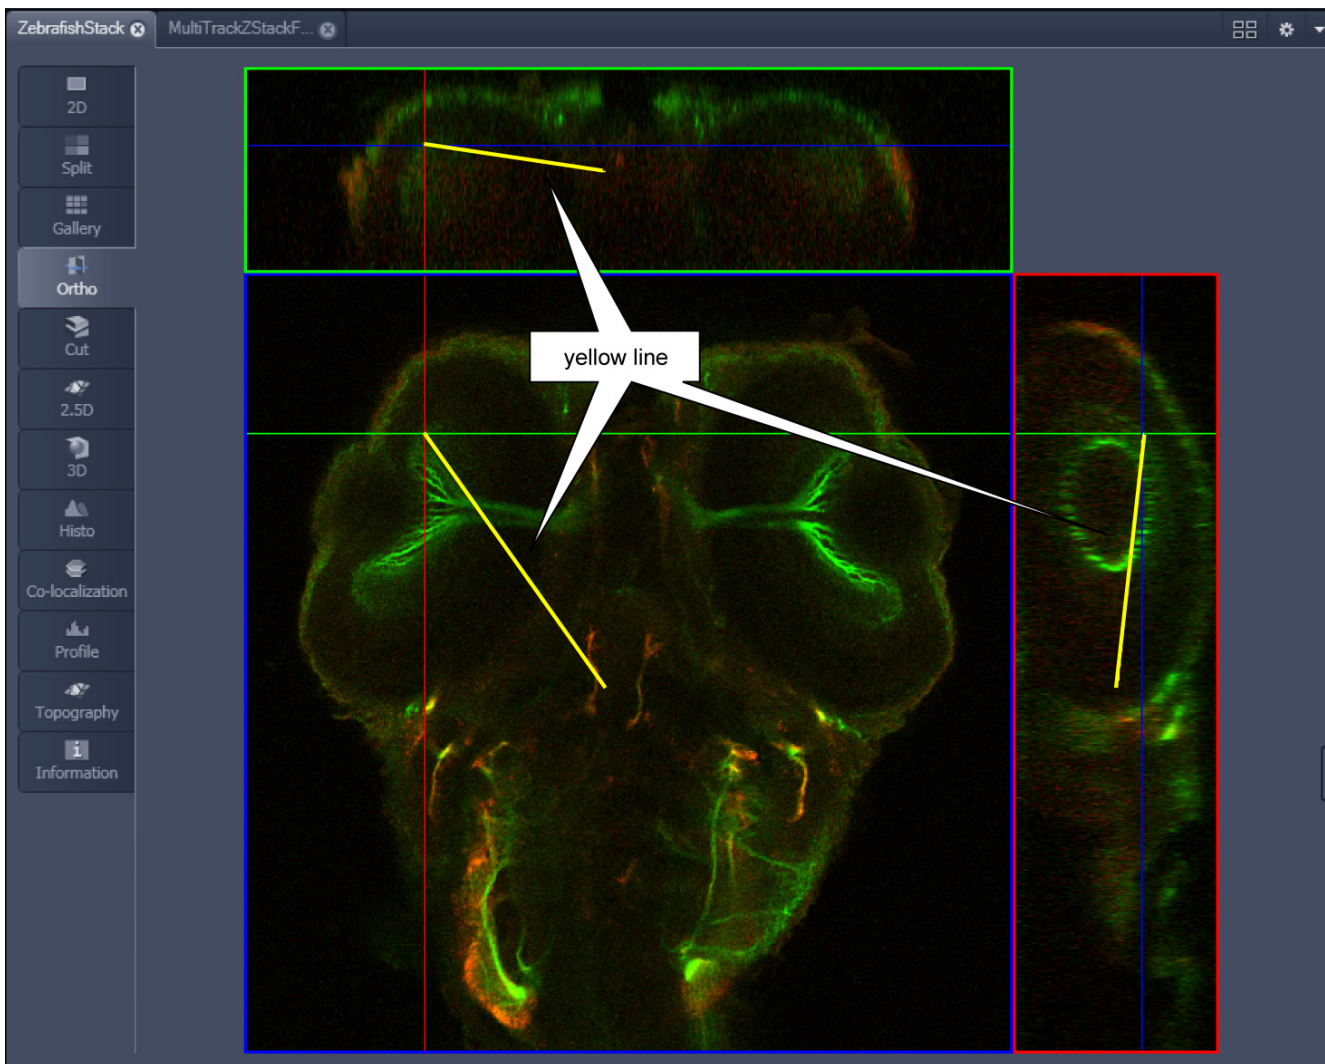

Fig. 193 Image Display – Ortho View - 3D Distance Measurement display
- The projections of the spatial distance are shown in the image planes by yellow lines (Fig. 193). The actual spatial distance is calculated and shown in μm next to the **Mark** button.